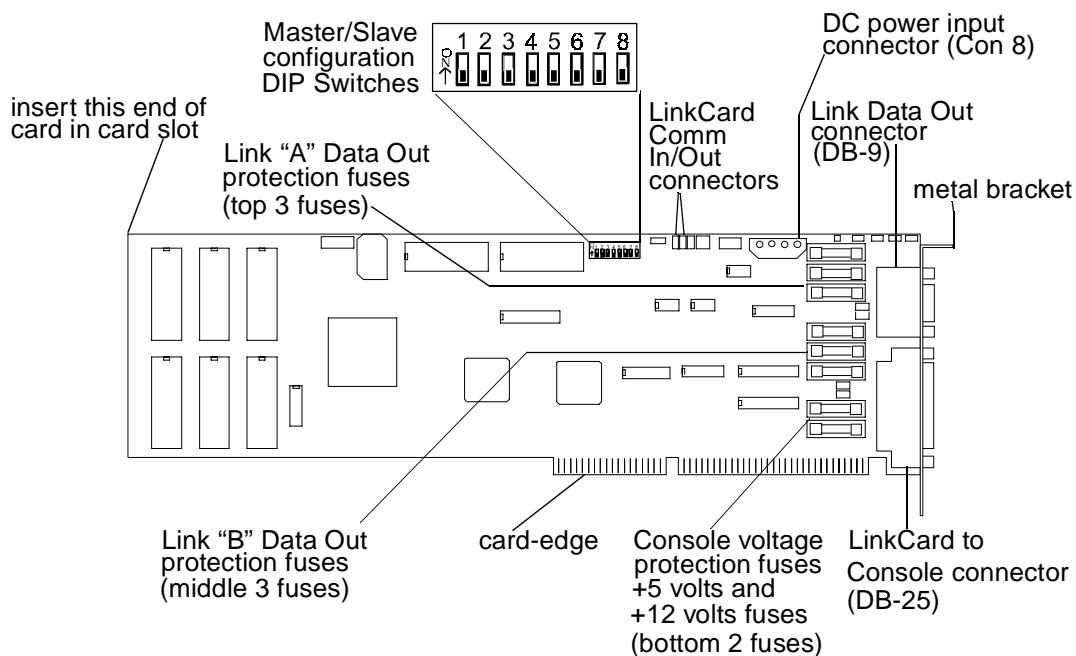

Figure 1.5. Identifying LinkCard Components
2. Locate the eight configuration DIP switches on the top edge of the LinkCard as indicated in Figure 1.5.
Master LinkCard – If you are installing this LinkCard as the Master LinkCard, that is, the first LinkCard you install in the system, then set or verify that all DIP switches are “off” or down as indicated in Table 1.1 and Figure 1.5. This is the default C800 base address.
2. Press the connector firmly onto the DC Power Input connector, marked Con 8, on the Master LinkCard. Refer to Figure 1.5 for the location of Con 8.